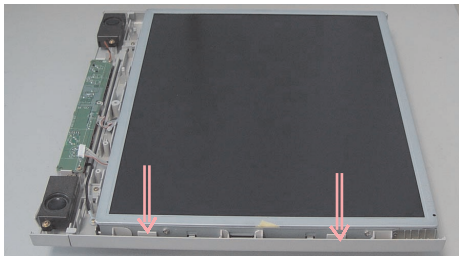

Fig.10
- Use the thin " | " type screw driver to open the clicks as shown in Fig.10